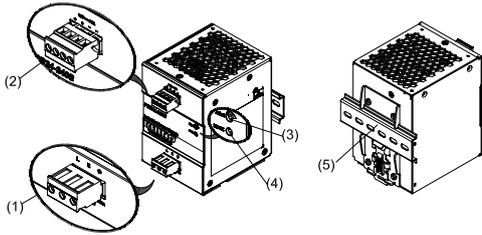

Figure 1
## 2. Device description (Fig. 1)
### 5.1. Input connection (Fig. 1 (1), Fig. 6)
Use L, N and GND connections of input terminal connector (see Fig. 1 (1)) to establish the 100-240 VAC connection.
### 5.2. Output connection (Fig. 1 (2))
Use the "+" and "-" screw connections to establish the 24 VDC connection. The output provides 24 VDC. The output voltage can be adjusted from 24 to 28 VDC on the potentiometer. The green LED DC OK displays correct function of the output (Fig. 1 (5)). The device has a short circuit and overload protection and an overvoltage protection limited to 35 VDC.